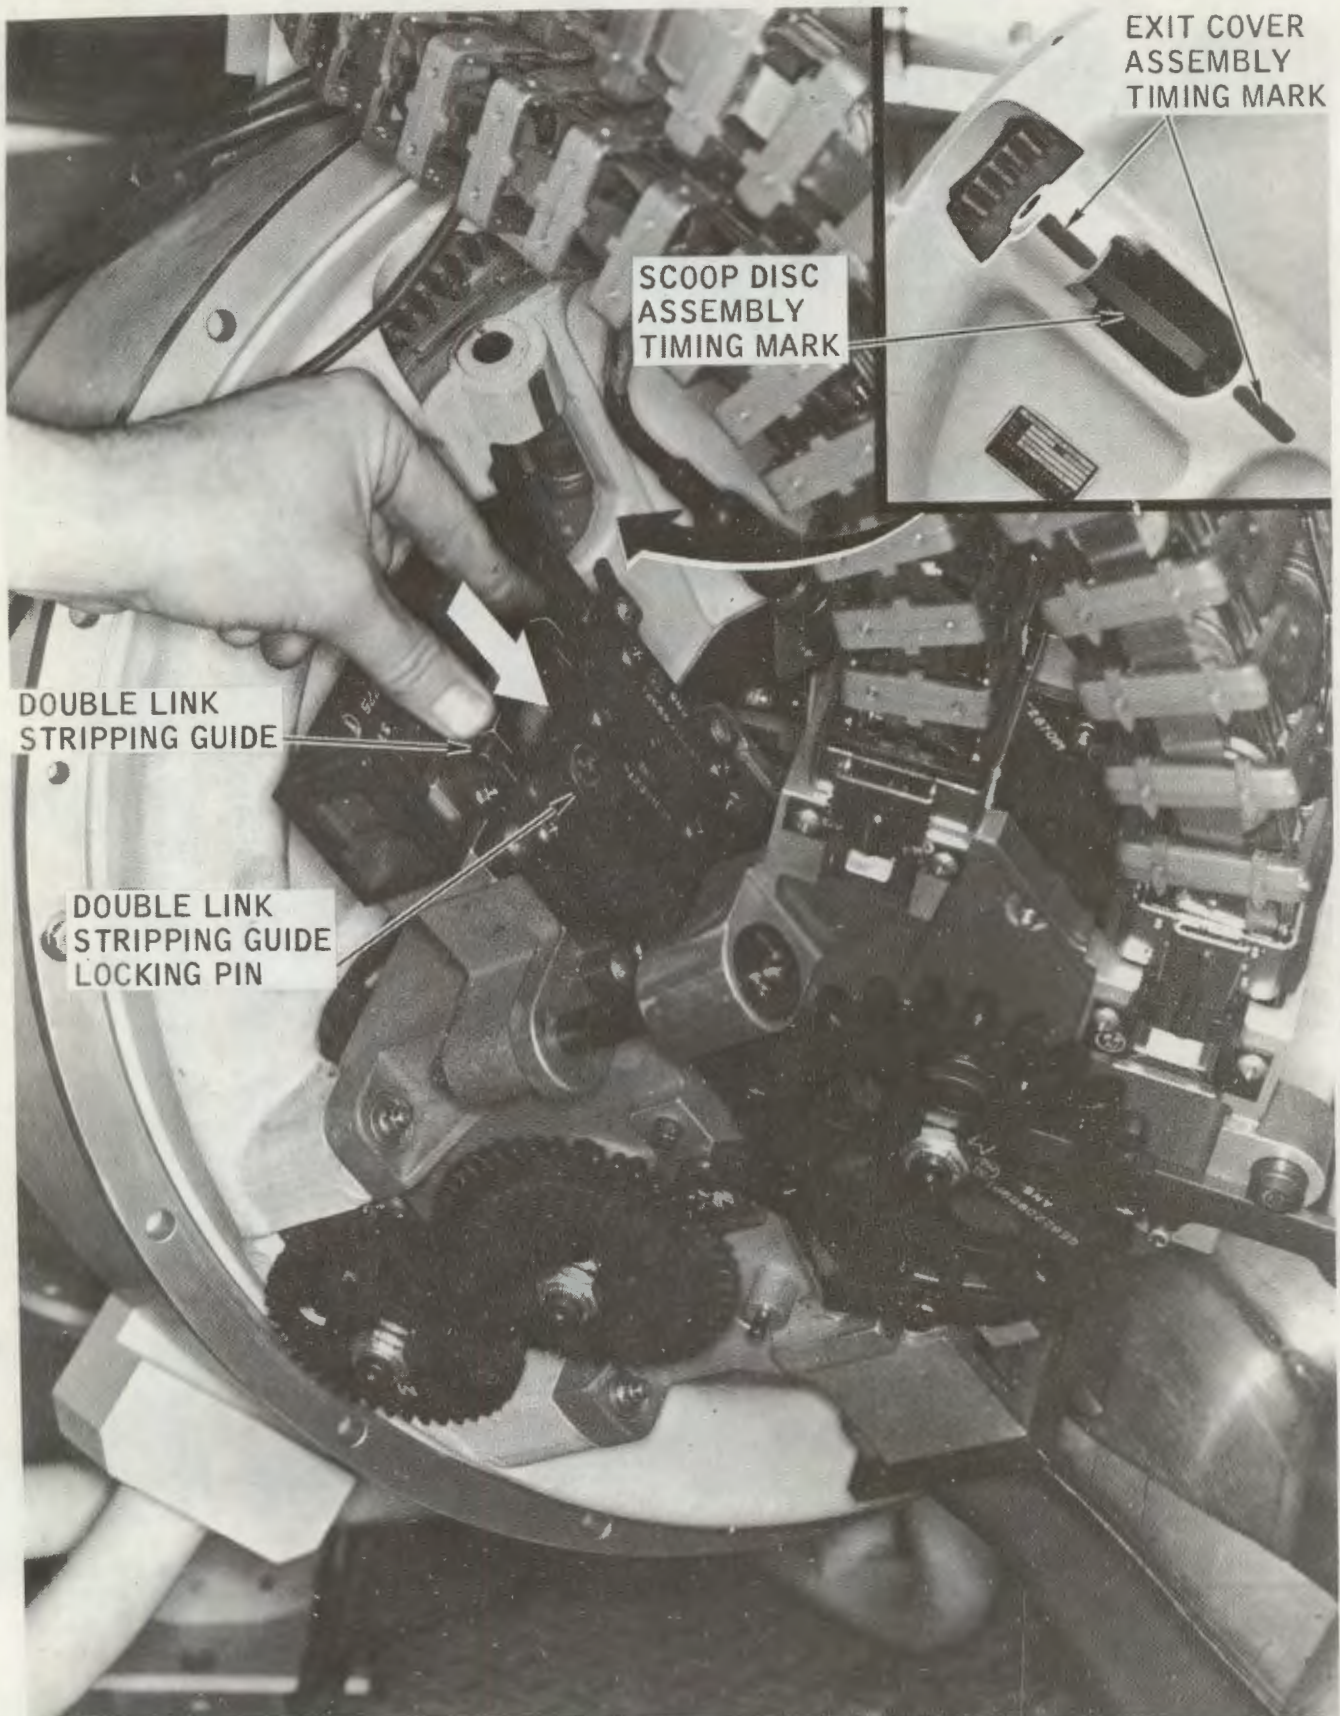

Figure 3-16. Double link-stripping guide and locking pin.
(2) *Locking pin (fig. 3-16)*. Locks double link-stripping guide in either operative (loading) or inoperative (firing) position.
(3) *Double link-stripping guide (fig. 3-16)*. Guides linked ammunition into the link stripper during loading.